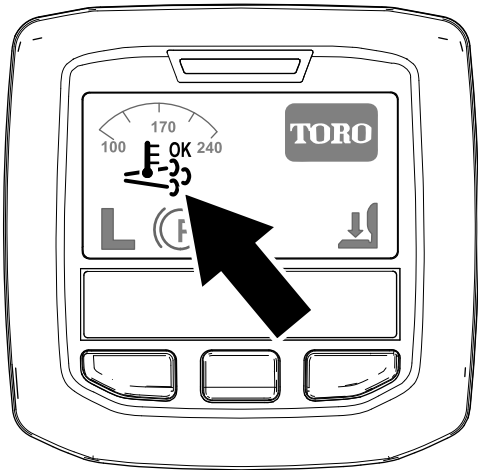

Figure 43
- The assist/reset-regeneration icon displays in the InfoCenter (Figure 43).